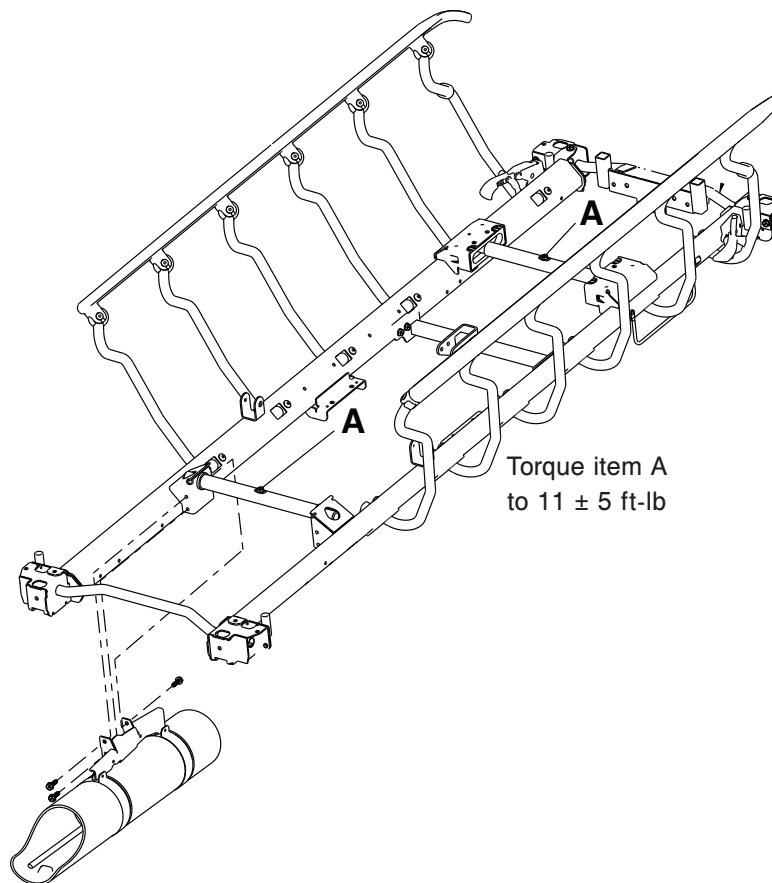

Figure 14 – Litter top removal
4. At the head end and the foot end, using a 1/2" socket with a 3/8" drive extension and a 3/8" drive ratchet, remove the two hex washer head screws (A) that hold the jack support tubes to the jack shafts (Figure 14).